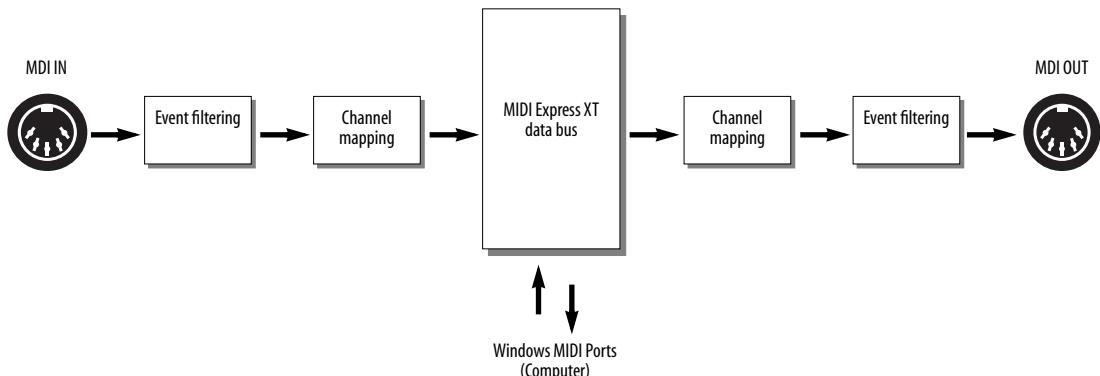
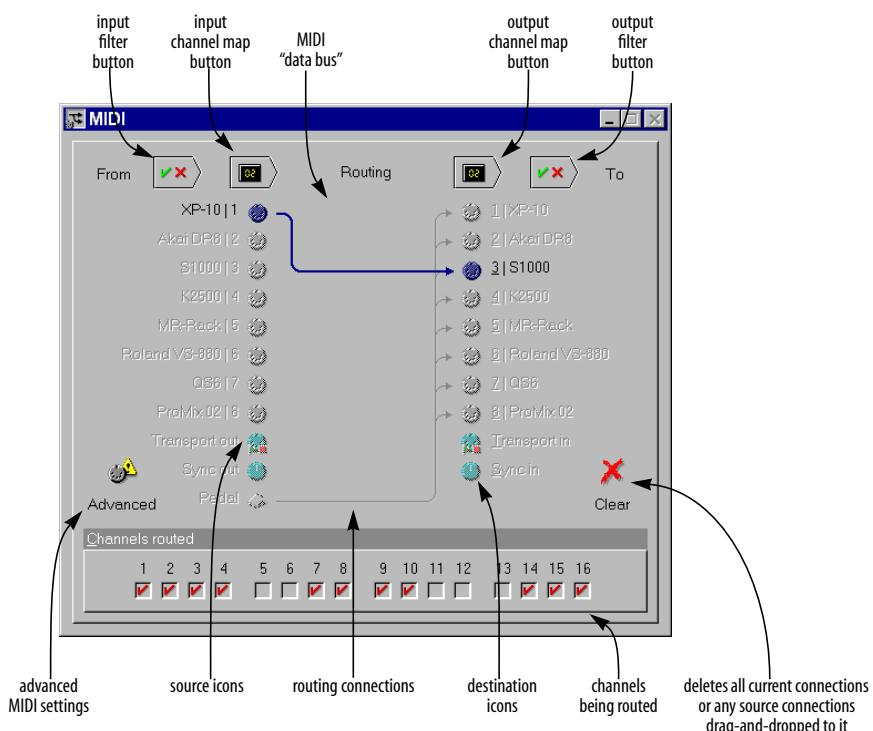

Figure 7-5: MIDI Express XT internal MIDI data processing sequence.
Figure 7-7: The MIDI Routing window with a source and destination selected.
Before going any further, it is important to understand how the MIDI Express XT performs its MIDI processing, specifically the order in which each type of processing is applied. Figure 7-5 illustrates how the Express XT processes MIDI data as it travels from one interface input port to one interface output port.
As for data arriving and leaving your computer via the included Windows MIDI driver, imagine it coming a going from the MIDI Express XT data bus as shown in Figure 7-5. All channelizing and filtering is applied before the input data arrives at any software input port and after it is sent from any software output port. This is a great advantage as it frees up your computer and MIDI software from having to deal with the mundane (and time-consuming) chore of such processing. Just configure your MIDI Express XT and let it do all the work!
The processing sequence described Figure 7-5 on page 54 is conveniently represented in the layout of the MIDI Routing window. The MIDI data flow proceeds from left to right. MIDI inputs, or *sources*, are represented on the left by the input port and clock (for MIDI Time Code converted from SMPTE) icons. MIDI outputs, or *destinations*, are represented on the right by the output port icons. Port-to-port routings are represented by extended arrows going from sources to destinations. The processing options (filtering and channelizing) are represented by the four buttons along the top of the window. You can clearly see the logical processing order with this layout as shown in Figure 7-7.
Routing is as simple as dragging a source icon with the mouse and dropping it on a destination icon. When making port-to-port connections, the Console will route all 16 MIDI channels from the source to the destination (as is the case in Figure 7-7 on page 55). You can freely edit the routed channels later by altering the Channels routed check boxes while the source and destination are selected (see “Selecting individual sources and destinations” on page 56).
You can also open the Advanced MIDI window by clicking the Advanced button in the lower left-hand corner of the window as shown in Figure 7-7 on page 55.
**2** With the port selected, click on the channel map button above the selected port as shown in Figure 7-7 on page 55.